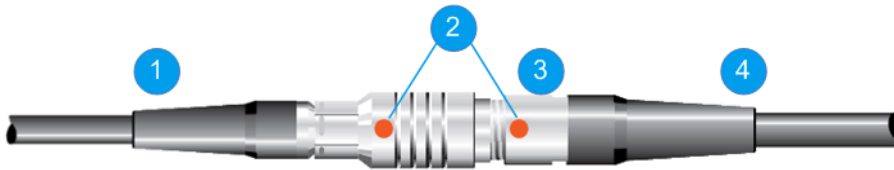

Fig. 3-2: Connecting the host connector
- ▶ Pull at the host connector (figure 3-2 \(3\)) to disconnect it from the connector of the USB adapter.